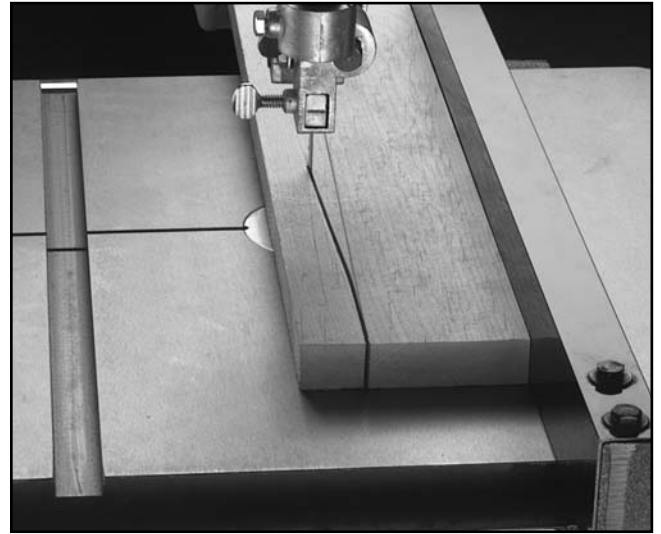

Figure 31. Blade leading away from line of cut.
Most bandsaw blades will not cut straight when using the fence or miter gauge. This is called “lead.” See **Figure 31**. Lead occurs (1) if the blade tension is incorrect, (2) if the teeth are dull on one side, or (3) if the teeth are set heavier on one side of the blade than the other.